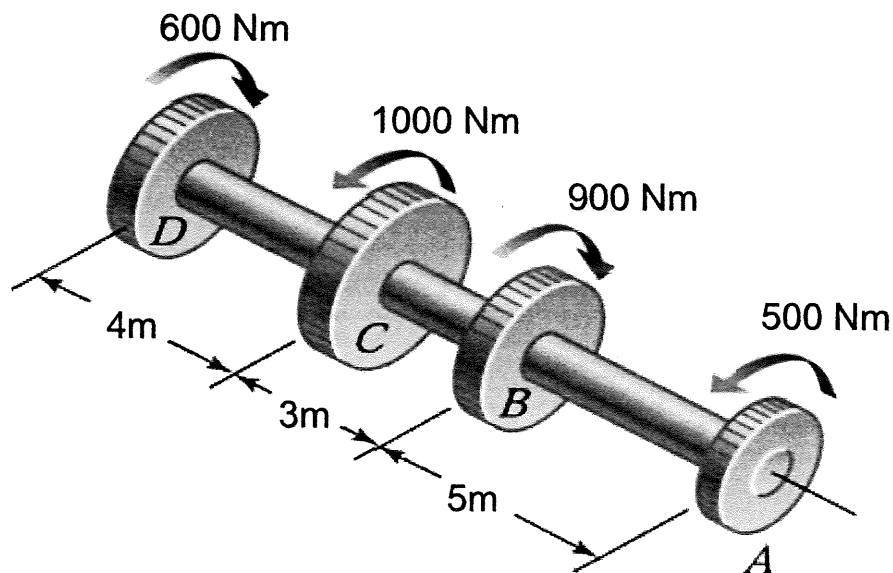

Figure 1
A shaft composed of segments Bronze (AB), Aluminium (BC), and Steel (CD) are fastened to rigid supports and loaded as shown in Figure 1. The diameter of the shaft is 50mm. For bronze, $G = 35 \text{ GPa}$; aluminum, $G = 28 \text{ GPa}$, and for steel, $G = 83 \text{ GPa}$.